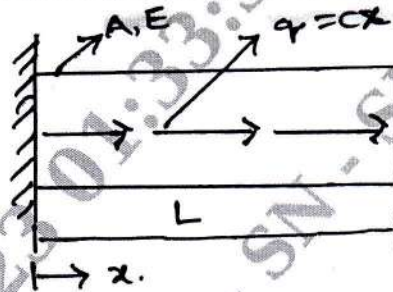

Fig Q2(b)
b. A bar of length L , cross sectional Area A and modulus of elasticity E , is subjected to distributed axial load $q = cx$, where C is a constant as shown in Fig Q2(b). Determine the displacement of the bar at the end using Rayleigh – Ritz method.